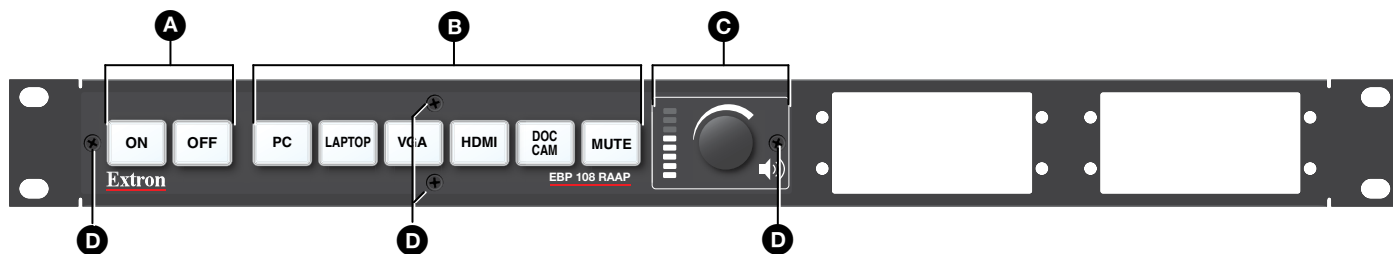

Figure 2. EBP 108 RAAP Front Panel
1. Remove the four Phillips-head screws holding the faceplate to the unit (see figure 2, **D**, on the previous page) and remove the faceplate.